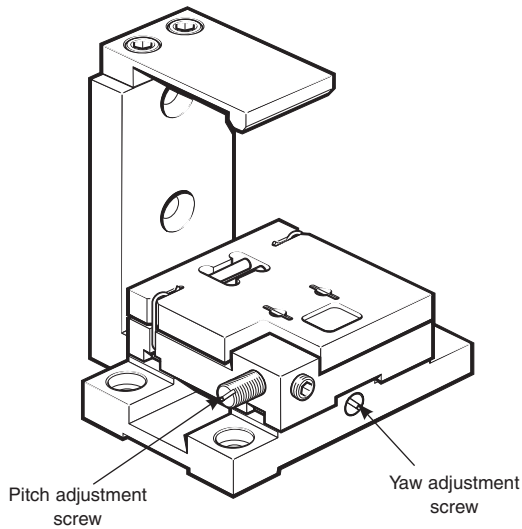

Figure 6: adjustable mirror mount
- Attach the adjustable mirror mount (see Figure 6 overleaf) to the stage using 3 of the M2.5 screws provided. The screws should be torqued to 0.7 Nm
- Visually align the mirror yaw using the yaw adjustment screw (see Figure 6) so that the return beam is in line with the centre of the alignment target aperture (mirror is perpendicular to the X-Y plane)
- Visually align the mirror pitch using the adjustment screw (see Figure 6) so that the return beam goes through the centre of the alignment target aperture (mirror surface is now perpendicular to the X-Y plane)